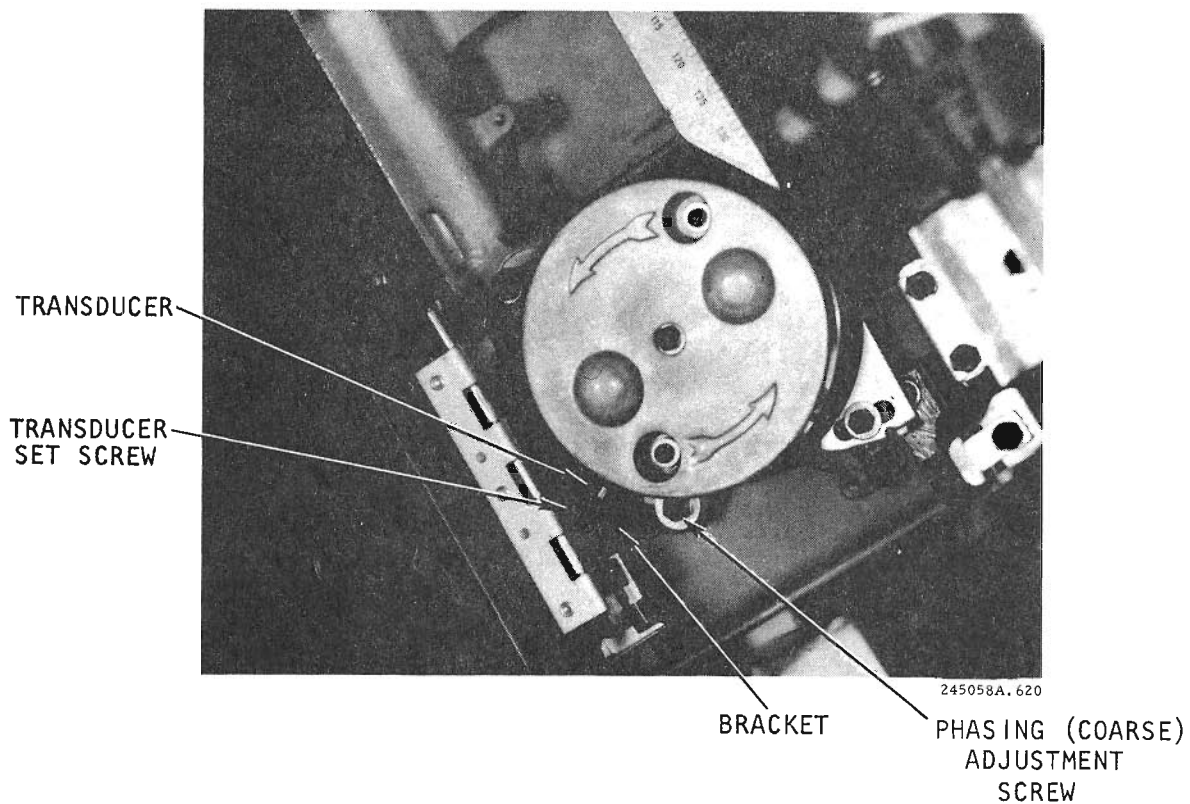

Figure 6-20. Transducer Assembly
- d. Loosen the transducer set screw (see figure 6-20).